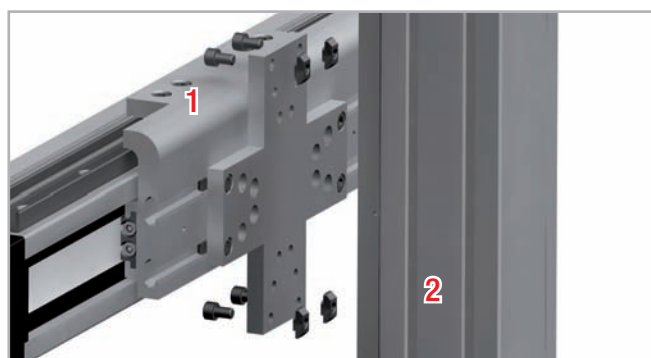

Fig. 107
4. Insert the screws from the other side of the connection plate (see fig. 107).